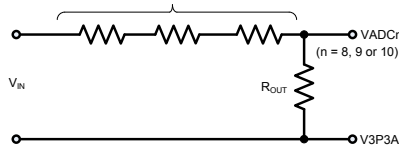
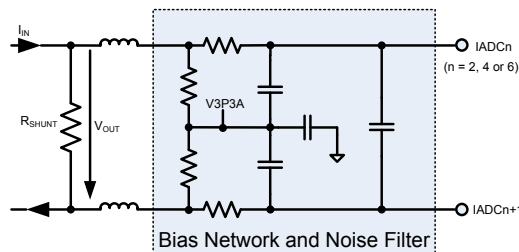
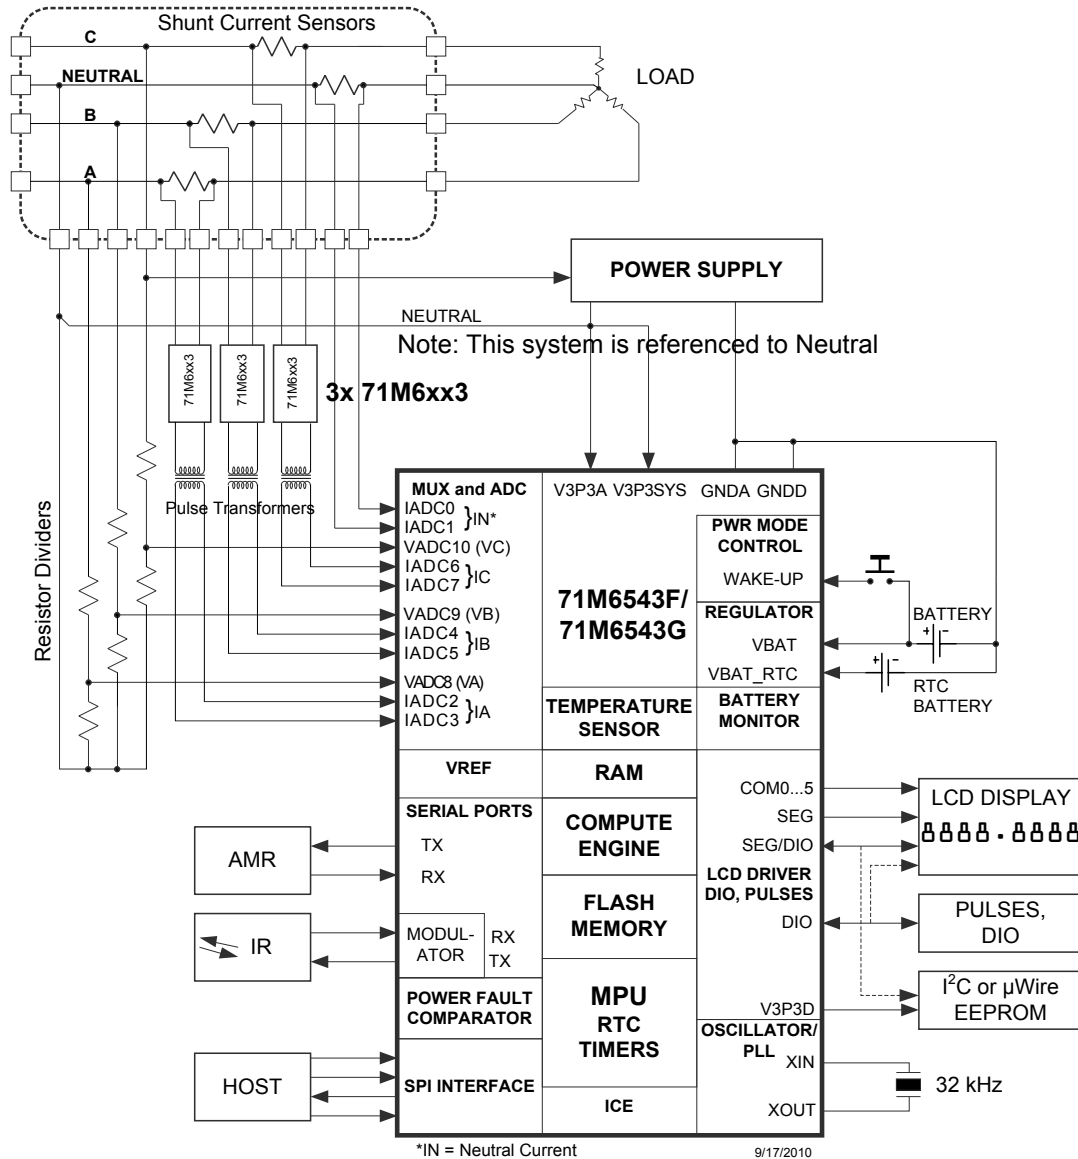
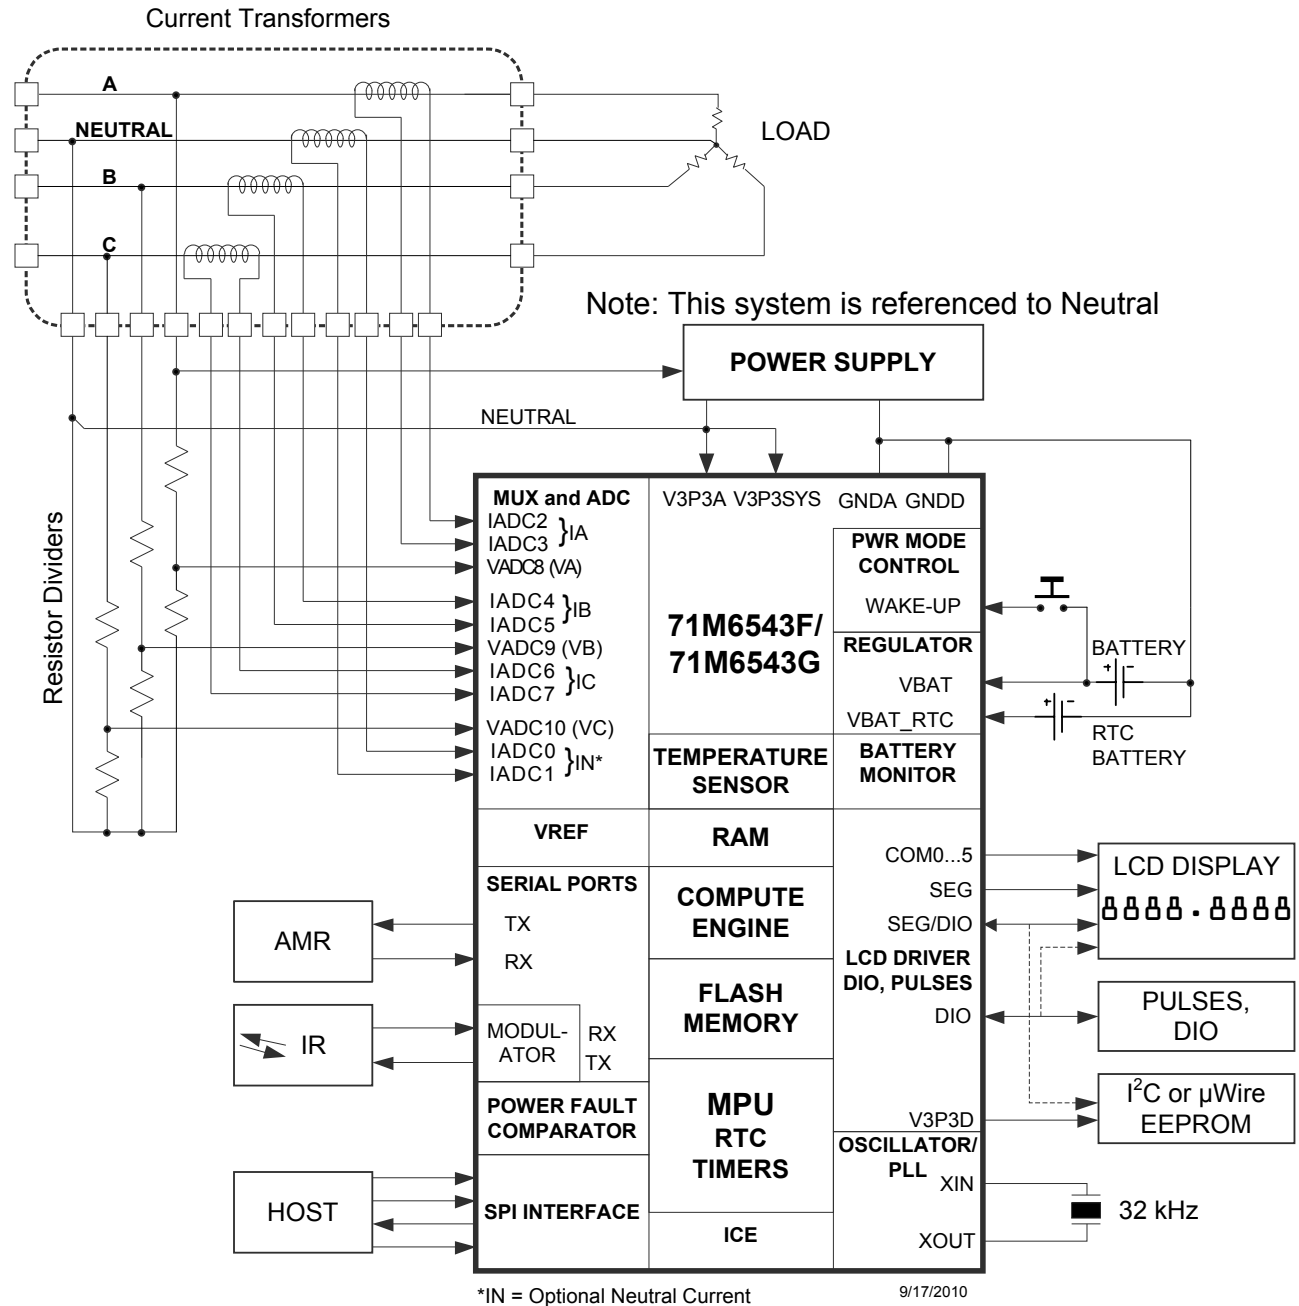

Figure 27: Resistive Voltage Divider (Voltage Sensing)
Figure 30: Differential Resistive Shunt Connections (Current Sensing)
Figure 31: System Using Three-Remotes and One-Local (Neutral) Sensor
Figure 32. System Using Current Transformers
Figure 27 through Figure 30 show voltage-sensing resistive dividers, current-sensing current transformers (CTs) and current-sensing resistive shunts and how they are connected to the voltage and current inputs of the 71M6543. All input signals to the 71M6543 sensor inputs are voltage signals providing a scaled representation of either a sensed voltage or current.
Figure 31 shows a typical connection for current shunt sensors; using the 71M6xx3 (polyphase) isolated sensors. Note that one shunt current sensor is connected without isolation, which is the neutral current sensor in this example (connected to pins IADC0-IADC1). Each 71M6xx3 device is electrically isolated by a low-cost pulse transformer. The 71M6543 current sensor inputs must be configured for remote sensor communications, as described in 2.2.8 71M6xx3 Isolated Sensor Interface (page 22). Flexible remapping using the I/O RAM registers *MUXn_SEL[3:0]* allows the sequence of analog input pins to be different from the standard configuration (a corresponding CE code must be used). See Figure 2 for the AFE configuration corresponding to Figure 31.
Figure 32 shows a polyphase system using four current transformers to support optional Neutral current sensing for anti-tamper purposes. The Neutral current sensing CT can be omitted if Neutral current sensing is not required. The system is referenced to Neutral (i.e., the Neutral rail is tied to V3P3A and V3P3SYS).
This section discusses metrology temperature compensation for the meter designs where current shunt sensors are used in conjunction with the 71M6xx3 remote isolated sensors, as shown in Figure 31.
Referring to Figure 31, the VADC8 (VA), VADC9 (VB) and VADC10 (VC) voltage sensors are always directly connected to the 71M6543. Thus, the precision of the voltage sensors is primarily affected by VREF in the 71M6543. The temperature coefficient of the resistors used to implement the voltage dividers for the voltage sensors (see Figure 27) determine the behavior of the voltage division ratio with respect to temperature. It is recommended to use resistors with low temperature coefficients, while forming the entire voltage divider using resistors belonging to the same technology family, in order to minimize the temperature dependency of the voltage division ratio. The resistors must also have suitable voltage ratings.
Table 66 shows the five $GAIN_ADJx$ equation output storage locations and the voltage or current sensor channels for which they compensate for the 1 Local / 3 Remote configuration shown in Figure 31.
Table 66: GAIN_ADJn Compensation Channels (Figure 2, Figure 31, Table 1)
This section discusses metrology temperature compensation for meter designs where Current Transformer (CT) sensors are used, as shown in Figure 32.
Referring to Figure 32, the VADC8 (VA), VADC9 (VB) and VADC10 (VC) voltage sensors are directly connected to the 71M6543. Thus, the precision of the voltage sensors is primarily affected by VREF in the 71M6543. The temperature coefficient of the resistors used to implement the voltage dividers for the voltage sensors (see Figure 27) determine the behavior of the voltage division ratio with respect to temperature. It is recommended to use resistors with low temperature coefficients, while forming the entire voltage divider using resistors belonging to the same technology family, in order to minimize the temperature dependency of the voltage division ratio. The resistors must also have suitable voltage ratings.
Table 67: GAIN_ADJx Compensation Channels (Figure 3, Figure 32, Table 2)